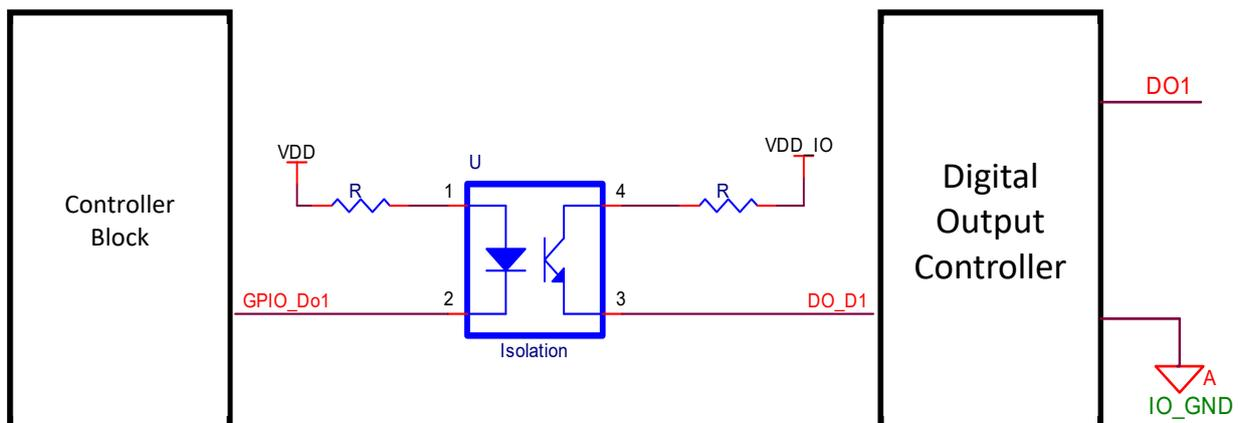

Figure 4.7 - Schematic Diagram of DO (Digital Output) Circuit
Figure 4.7 shows an example of internal circuit of digital output (DO) of IO5202. The Controller Block inside the IO5202 has GPIO_Do1 connected to a DO_D1 pin of Digital Output Controller block inside IO5202 via an Isolation device U. This separates controller block circuit from the digital output controller circuit. The digital output controller block can drive the signal to outside device via DO1 channel of the digital output port.